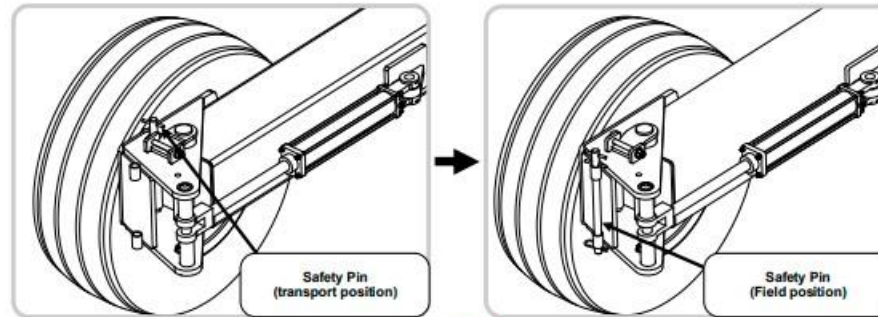

FIGURE 2
5. Remove both wheel pivot safety pins from transport position to field position and secure (fig. 2).